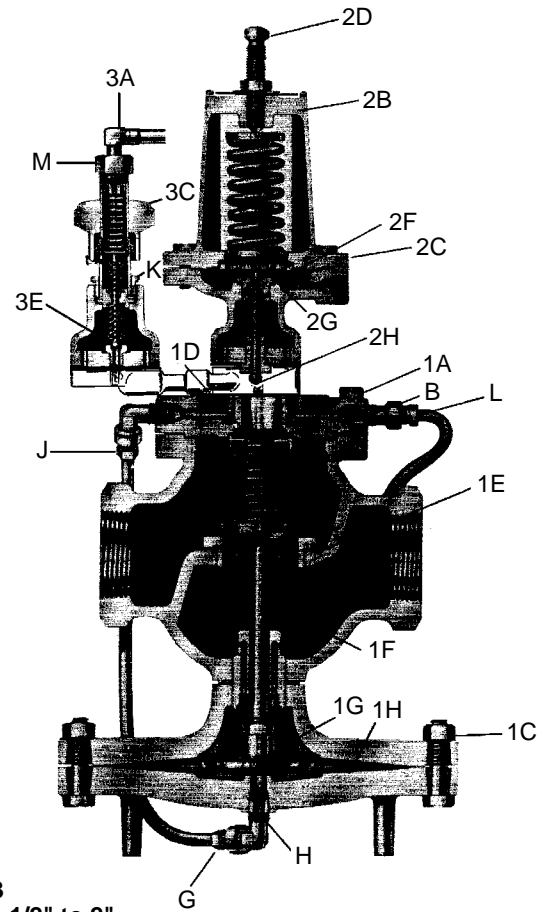

Fig. 3
2. Turn the pressure pilot adjustment 2D (Fig. 3) counter-clockwise until spring is slack.
Temperature Pilot, Inspecting and Replacing Valve Head and Seat (Refer to Fig. 3)
Pressure Pilot, Inspecting and Replacing Valve Head and Seat (Refer to Fig. 3)
2. Pilot valve head and seat are contained in one complete assembly. (See Fig. 3).
Inspecting and Replacing Pilot Head Stem Guide (Refer to Fig. 3)
Inspecting and Replacing Pressure Pilot Valve Diaphragms (Refer to Fig. 3)
Inspecting and Replacing Main Valve Head and Seat (Refer to Figs. 3 and 5).
Inspecting and Replacing Main Valve Diaphragms (Refer to Figs. 3, 4 and 5).
Refer to Figs. 3, 5, & 7